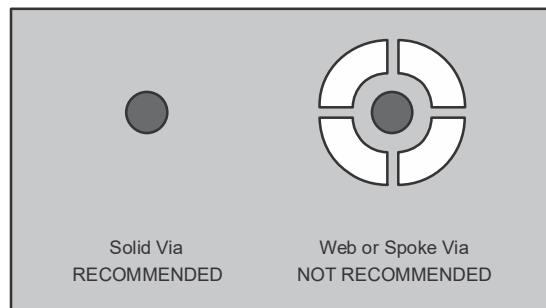

Figure 7-5. Via Connection
5. When connecting these holes to the ground plane, do not use the typical web or spoke via connection methodology; see Figure 7-5. Web connections have a high thermal resistance that is useful for slowing the heat transfer during soldering operations. This heat-transfer slowing makes the soldering of vias that have plane connections easier. However, in this application, low thermal resistance is desired for the most efficient heat transfer. Therefore, connect the holes under the PowerPAD package to the internal ground plane with a complete connection around the entire circumference of the plated through hole.